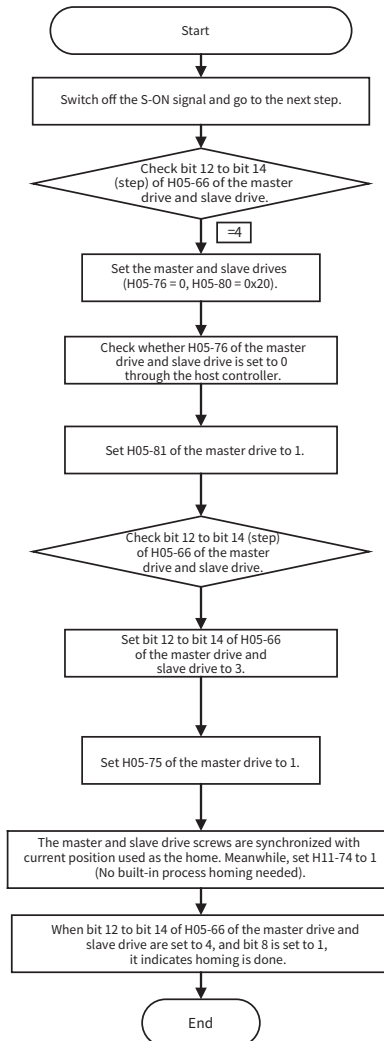

Figure A-5 Flowchart 1 for dual-screw homing mode
- 1) The homing process with the current position as the home is shown in Figure A-5, including the screw synchronization homing and built-in process homing. The host controller does not need to carry out built-in process homing (H11-74 = 1).